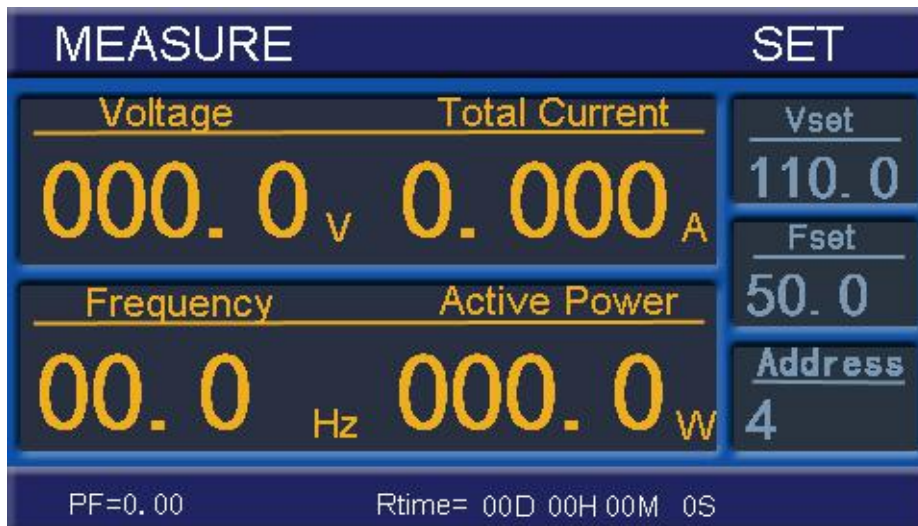

Fig.4 Power Setting state
5. 1. 2. 1 Press Setting key **Vset** to enter into setting state (as shown in Fig.4), set the voltage , upward & downward fluctuation parameters via pressing the Increase key and Decrease key. After the parameter setting is finished, pressing the **STOP** key can return to standby state again.